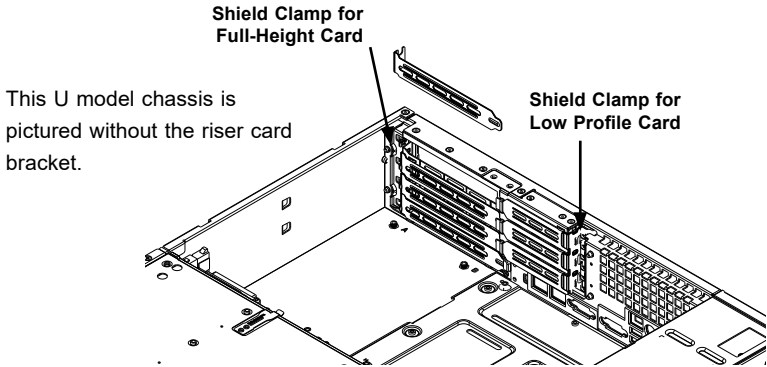

Figure 5-12. Remove an Expansion Card Slot Shield
2. Release the clamp that secures all four full-height PCI shields (Figure 5-12). Looking at the rear of the chassis, this clamp is in the right corner. Unscrew the single screw that secures the clamp and rotate the clamp away from the shields. Remove the blank PCI shield covering the expansion slot in the chassis.